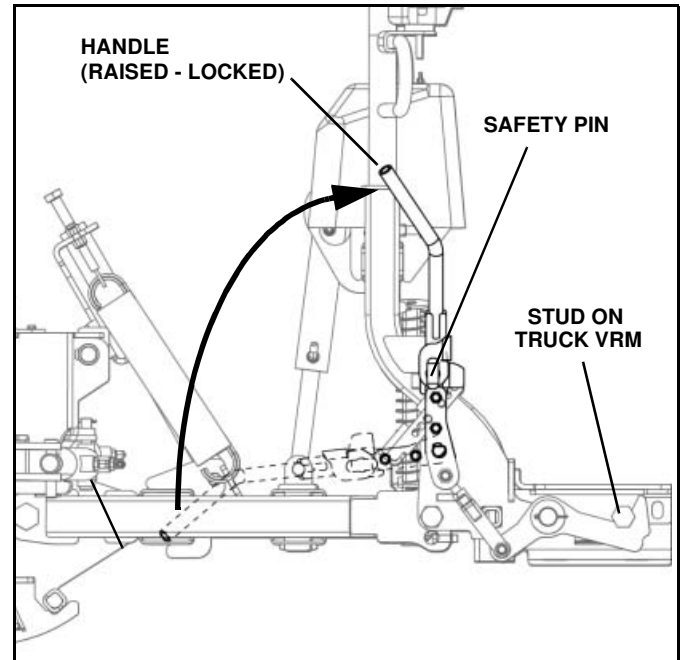

Figure 1-23
26. Pull up engagement handle to engage plow onto stud on VRM, ensuring that the safety pin is fully engaged. (See Figure 1-23).